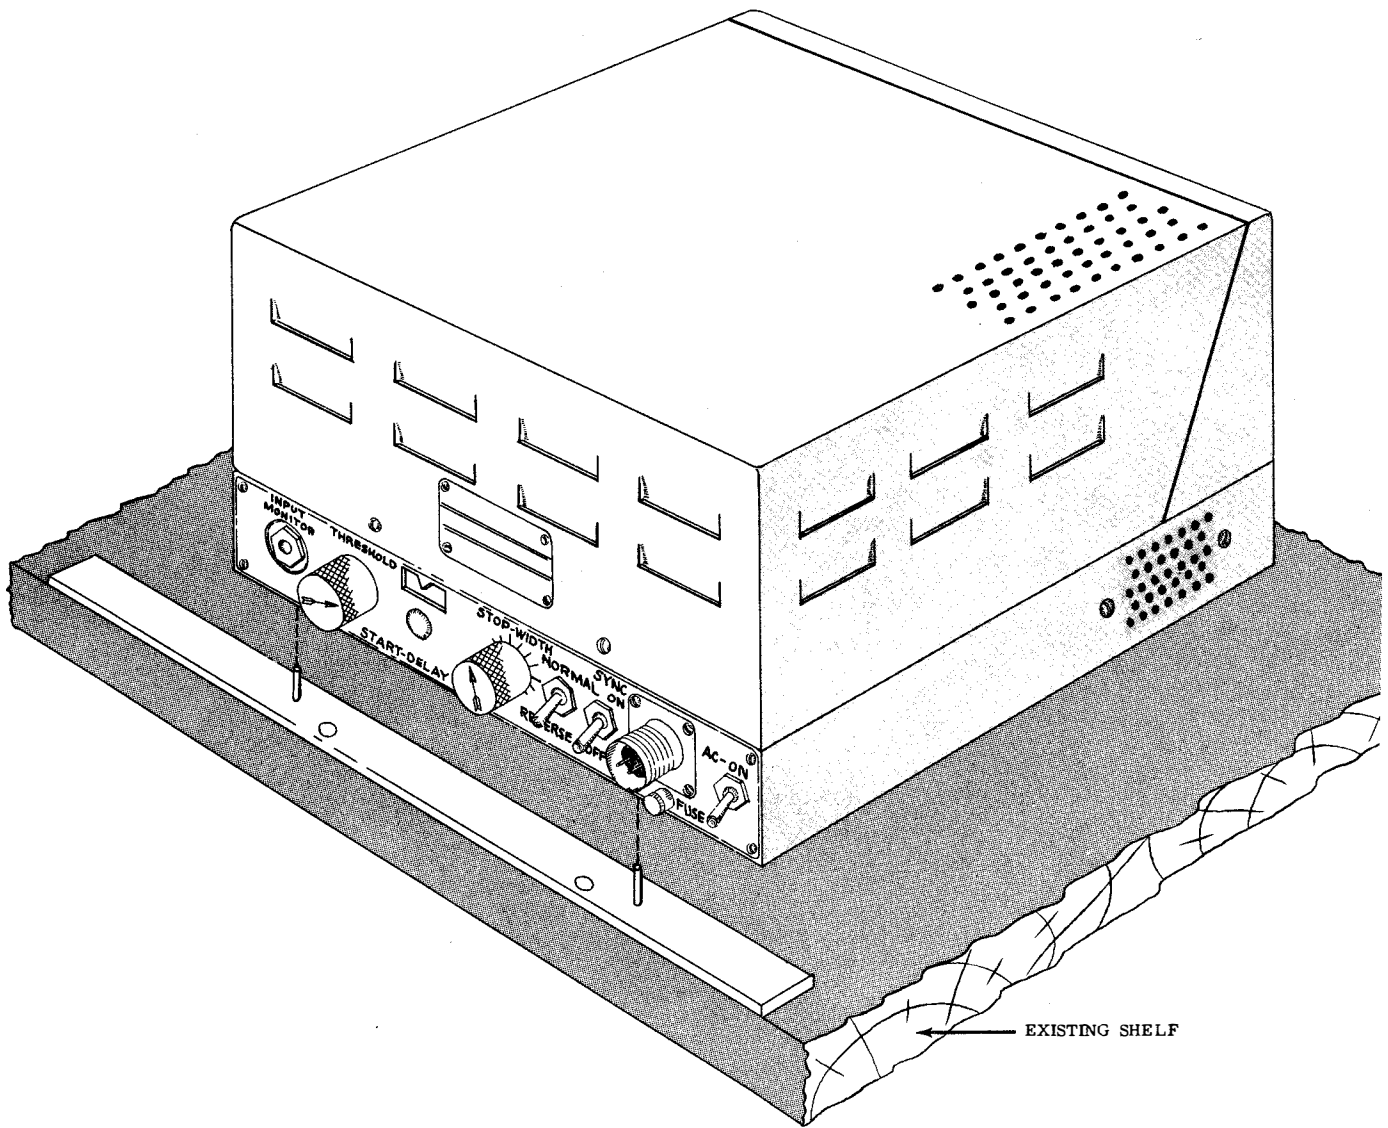

Figure 3-1. Method of Mounting
a) Mounting Strip. A mounting strip is provided to facilitate securing the equipment, yet leaving it free for instant removal as shown in Figure 3-1. This strip should be fastened by suitable means to the shelf on which the equipment is to be mounted. The equipment has holes on the bottom of the front of the chassis to receive the studs on the mounting strip. The equipment is mounted by engaging it on the studs.